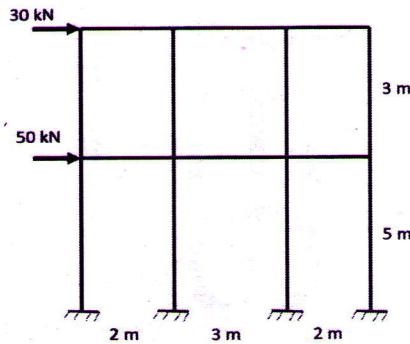

Figure 1
- 1 a) What is substitute frame? Explain with loading diagram how to find maximum bending moment in beam and column using substitute frame method. (5)
- b) Analyse the frame shown in Figure 1 using portal method and find the axial force in columns, shear force in beams and columns, bending moments in beams and columns. Draw the BMD of beams and columns. (10)